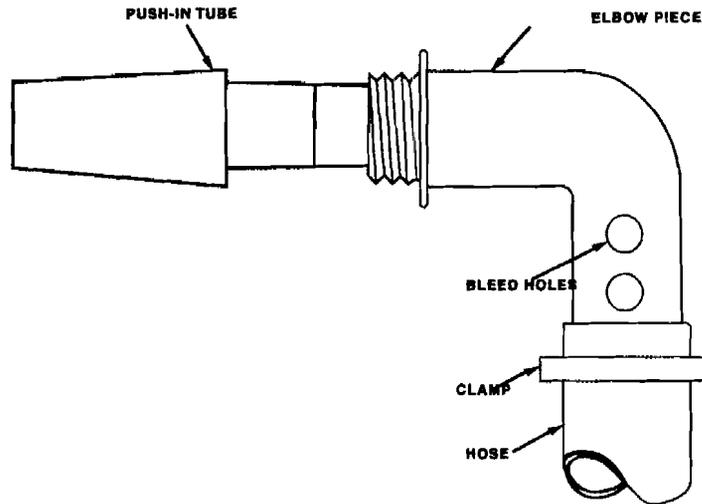

FIGURE 6
2. Refer to Figure 6. Push the small end of the Push-in Tube (13) into the threaded end of the Elbow Piece (7) until it is secure. This is your inlet adapter.
3. Refer to Figure 1. Uncoil the hose (4) and remove all twists. Using clamps (16), clamp one end of the hose to the back side of the fountainhead (1 or 3) and the other end to the inlet adapter from step 2. Cover one set of bleed holes with the hose (Fig. 6). To tighten clamp, grasp "tabs" between thumb and forefinger and squeeze. Tighten securely with a pair of pliers. To open the clamp, grip one "tab" of the clamp with pliers and twist loose.
4. Using the tie wrap (15), LOOSELY attach the anchor (5) to the hose (4). The anchor (5) should be attached to the hose (4) at a point as deep as the water plus approximately two feet. You will have to estimate what the water depth is where you want the fountain and add two feet. **CAUTION: DO NOT CONSTRICT THE HOSE BY TIGHTENING THE TIE WRAP (15) TOO TIGHT.**
6. Place the fountain assembly into the pool. Position the fountain in the desired location being careful not to crimp the hose (4)
Height adjustment is achieved by covering more or less of the bleed holes (Fig. 6) on your Elbow Piece (7) with the hose (4). The more holes covered, the higher the fountain and vice versa.
Height adjustment is achieved by covering more or less of the bleed holes (Fig. 6) on your Elbow Piece (7) with the hose (4). The more holes covered, the higher the fountain and vice versa. If your fountain is still not as high as desired, use the threaded plug (12) to plug one of the other inlets.